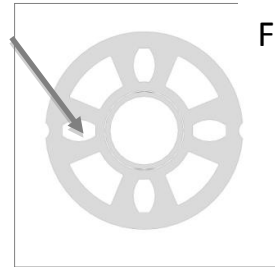

Fig 3.2
A. Insert the wedge of each Horizontal Bar into the Connector Ring of each Starter Column by sliding the end of the bar into place over the ring and hammering the wedge firmly into place (see Fig 3.1) on the narrow opening of the ring (see Fig 3.2).